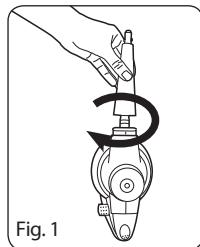

Fig. 1
1. Install the extension nozzle on the steam nozzle of the steam cleaner (Fig. 1). Align the marks on the steam nozzle and the extension nozzle and rotate the extension piece clockwise until it clicks into place. Once the extension nozzle is installed, you can use it separately for direct application or as an attachment for additional accessories. In the "Accessories Table", you can find a list of accessories that can be attached to the extension nozzle.